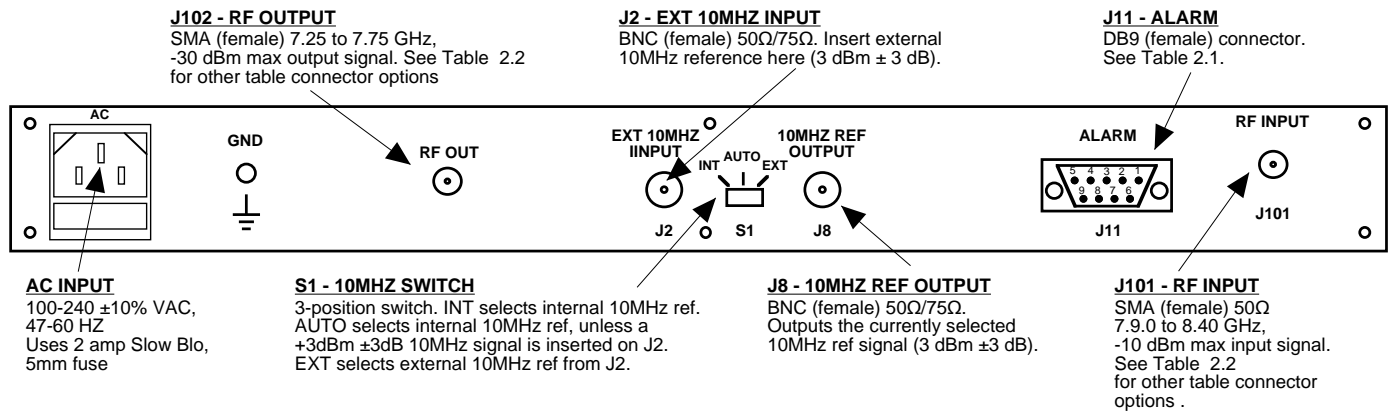

FIGURE 2.1 2116-84T78 Rear Panel I/O's
Figure 2.1 shows the input and output connectors on the rear panel.
1. Connect a -30 to -10 dBm (7.90 to 8.40 GHz) signal to 0 RF INPUT (J101) (Figure 2.1).
5. Select either INT. (for internal 10MHz ref), AUTO (for internal 10MHz ref UNLESS an external 10MHz, 3 dBm signal is connected to J2), or EXT (for external 10MHz, 3 dBm ref that is inserted at J2) using the rear panel 3-way switch, S1 (Figure 2.1).
7. Check that a 10MHz, 3 dBm \pm 3 dB signal is present at the 10MHZ REF OUTPUT (J8) (Figure 2.1).